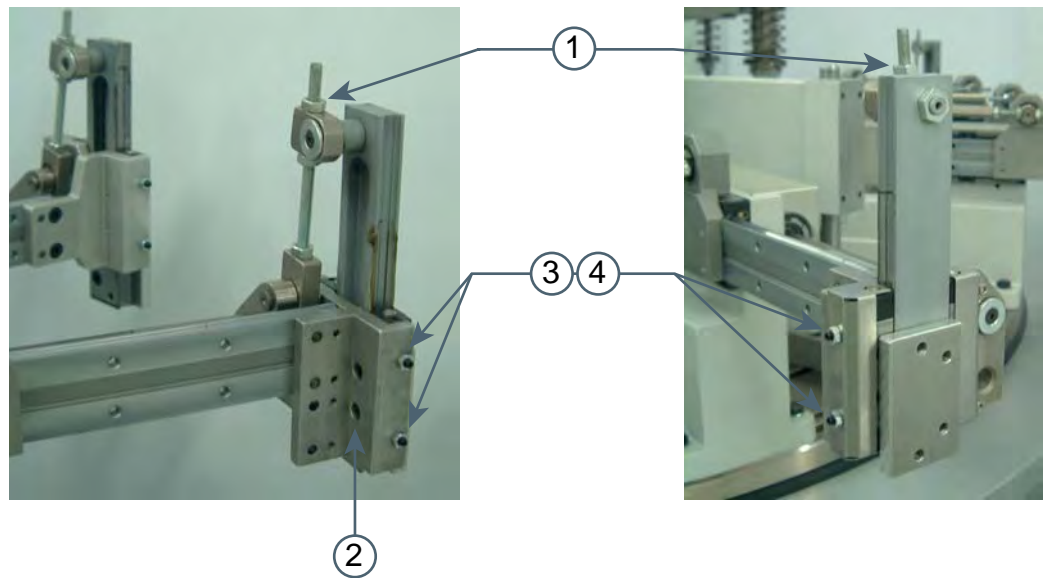

Fig. 18: Adjusting the vertical guide
- (1) Fixing nut
- (2) Two fastening screws
- (3) Counternuts
- (4) Setting screws
- ① Retrofitting the lift position at the vertical axis from the bottom position (see Figure 18 on page 37) to the top position only after consultation with WEISS GmbH.